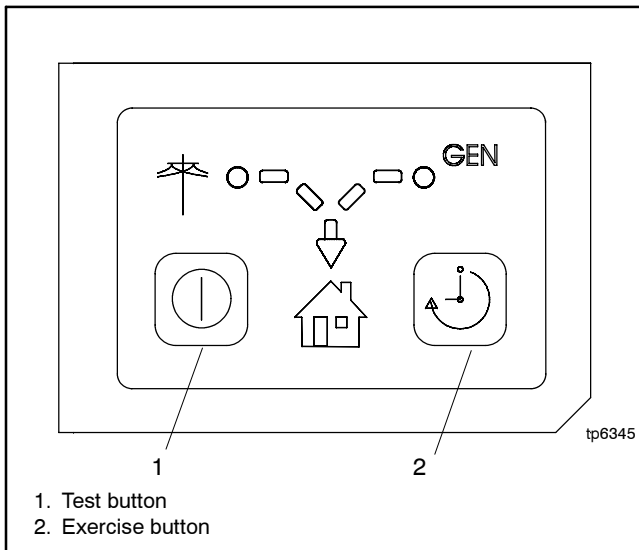

Figure 21 Series 500 ATS Controller
Use the Program Loader software version 2.5.0 or higher to load the controller application program onto the Series 500 ATS controller, shown in Figure 21.
6. The program will prompt you to reset the target controller. Reset the transfer switch controller by holding both the Test and Exercise buttons for at least six (6) seconds. See Figure 21.
17. To start an exercise run and set the exercise time, press the Exercise button on the controller user interface. See Figure 21.
18. To start an exercise run and set the exercise time, press the Exercise button on the controller user interface. See Figure 21.